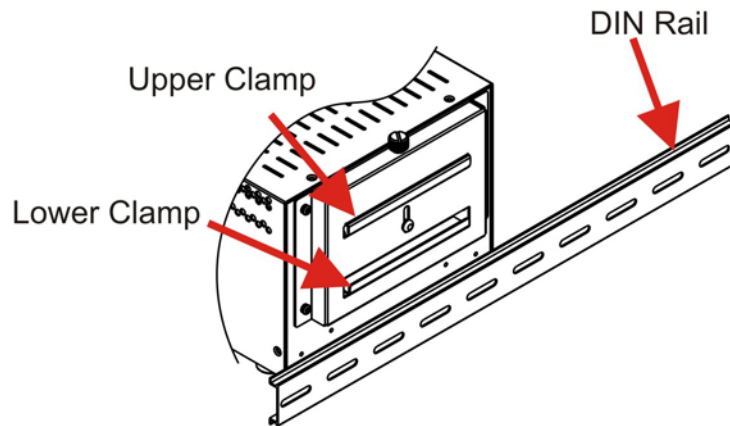

Figure 4-10: Mounting the DIN RAIL
Step 3: Place the DIN rail flush against the back of the mounting bracket making sure the edges of the rail are between the upper and lower clamps (**Figure 4-10**).